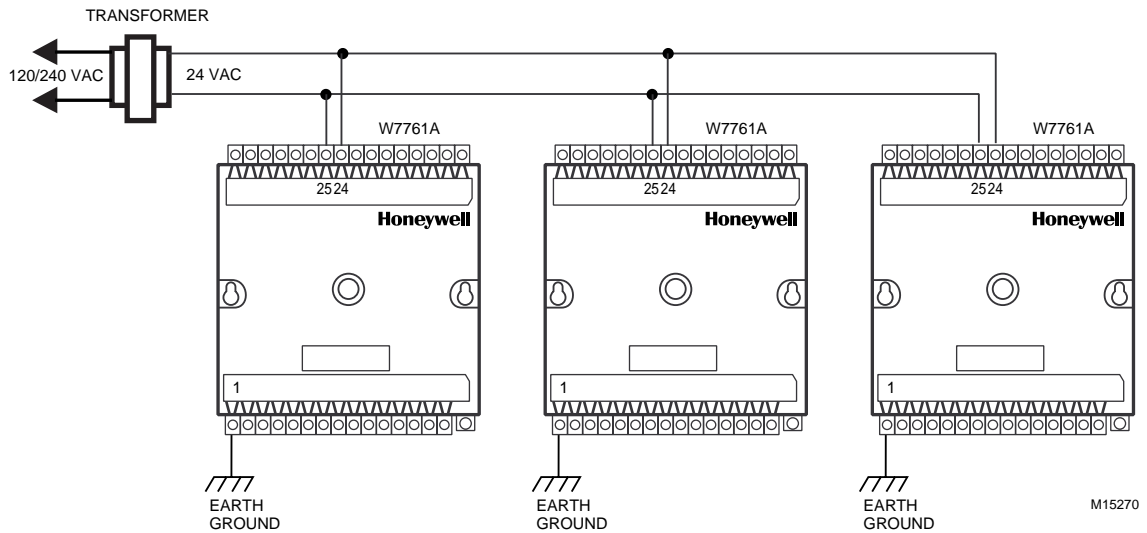

**Fig. 11. NEMA class 2 transformer voltage output limits.**
This means that four volts are going to be lost between the transformer and the device; therefore, to assure the device receives at least 20 volts, the transformer must output more than 24 volts. Because all transformer output voltage levels depend on the size of the connected load, a larger transformer outputs a higher voltage than a smaller one for a given load. Fig. 11 shows this voltage load dependence.
In the preceding  $I \times R$  loss example, even though the device load is only 37 VA, a standard 40 VA transformer is not sufficient due to the line loss. From Fig. 11, a 40 VA
transformer is just under 100 percent loaded (for the 37 VA device) and, therefore, has a secondary voltage of 22.9 volts. (Use the lower edge of the shaded zone in Fig. 11 that represents the worst case conditions.) When the  $I \times R$  loss of four volts is subtracted, only 18.9 volts reaches the device, which is not enough voltage for proper operation.
1. Use a larger transformer; for example, if an 80 VA model is used, see Fig. 11, an output of 24.4 volts minus the four volt line loss supplies 20.4V to the device. Although acceptable, the four-volt line-loss in this example is higher than recommended. See the following **IMPORTANT**.
To meet the National Electrical Manufacturers Association (NEMA) standards, a transformer must stay within the NEMA limits. The chart in Fig. 11 shows the required limits at various loads.